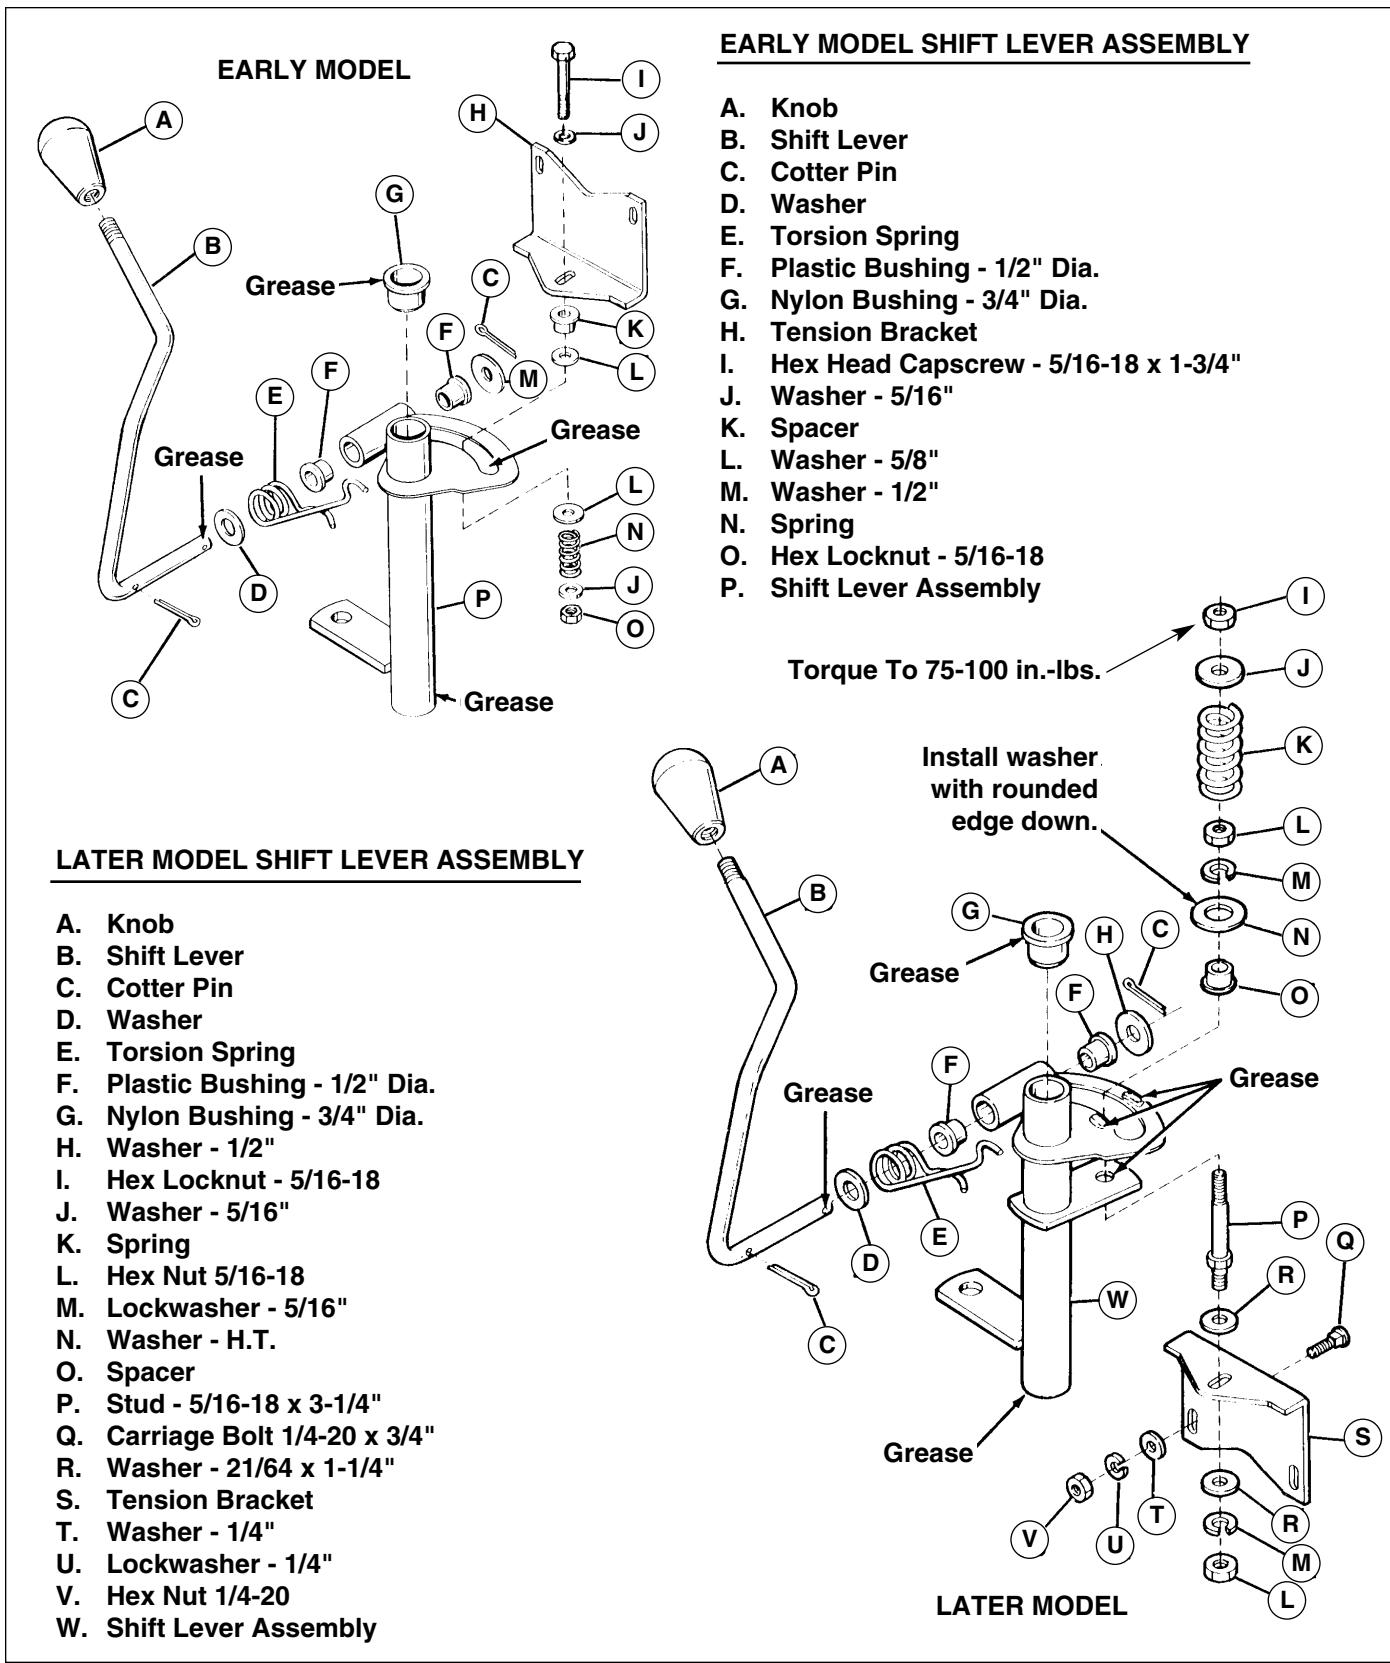
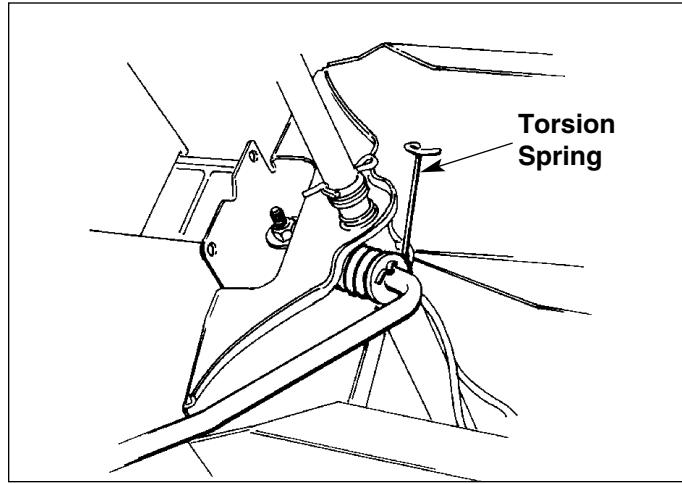

Figure B-3. Typical Shift Lever Assemblies
Figure B-10. Disengage Torsion Spring
Tension on the shift lever may be increased or decreased by adjusting the tension on the shift lever compression spring (K, Figure B-3 Later Model Shift Lever Assembly). The correct tension for proper shift lever operation should be obtained when the adjustment locknut (I, Figure B-3) is torqued to 75 - 100 in./lbs.
1. Release tension on the shift lever by disengaging the torsion spring's (E, Figure B-3) hooked end from the shift lever shaft. (Figure B-10)
6. The shift lever assembly may now be removed from the unit and inspected for wear or damage. Replace parts as required. Refer to Figure B-3 for proper assembly sequence of parts.
*NOTE: On later models with adjustable tension, attach tension bracket (S, Figure B-3) against lower dash before tightening hex nut (L) on stud (P). Adjust tension on adjustment nut (I) to 75 - 100 in./lbs.*